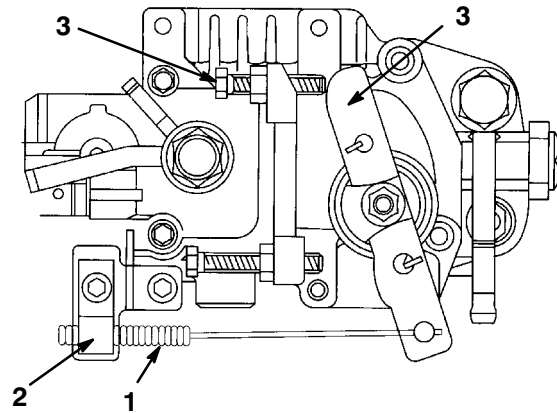

Figure 37
1. Move the remote throttle control lever to the Slow position (Fig. 37).
2. Loosen the cable clamp screw securing the cable to the engine (Fig. 37).
3. Move the cable until the speed control lever contacts the idle speed screw (Fig. 37).
2. Loosen the locknut on the idle speed screw (Fig. 37).